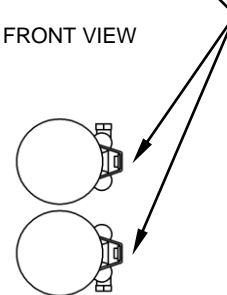

FIGURE 7
11. Remove the muffler assembly from the box and install the oxygen sensor removed in Step 7, in the tapped bung, torque to factory specifications. Slide two supplied 27-61MSC clamps onto the front of the muffler body tubes. Refer to Figure 7 for alignment of the clamps.
16. To install the front heatshield, first slide the rear portion of the heatshield over the muffler, continue to slowly slide it forward pushing the front of the heatshield gently into place between the frame and motor (Hint: Spread the hose clamps apart slightly to make it easier to slide them over the muffler assembly and headpipes). Make sure the muffler clamps don't interfere with the heatshields and are aligned as shown in Figure 7. Snug the heatshield clamps but **DO NOT TIGHTEN.**